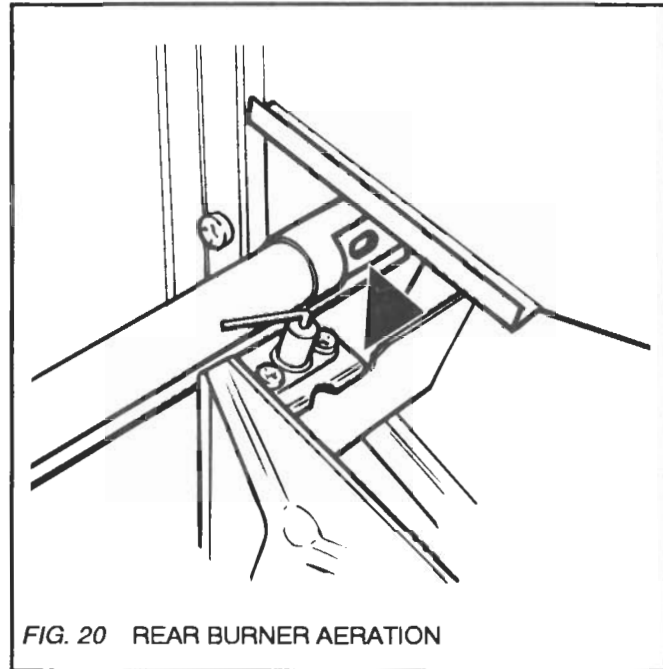

FIG. 20 REAR BURNER AERATION
- 15.1. The rear burner tube is equipped with an adjustable shutter to control primary aeration. The air holes are at the right side of the tube. The appliance is supplied with the front air hole open 100%, the top hole closed and the rear hole open 30% (see figure 20). For the majority of installations no adjustment will be necessary. However, in a few instances, performance may be improved by adjusting the aeration. Aeration is adjusted by sliding the shutter to the left or right.